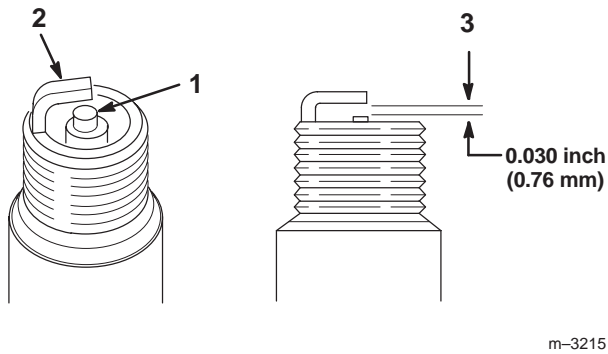

Figure 39
1. Look at the center of the spark plug(s) (Fig. 39). If you see light brown or gray on the insulator, the engine is operating properly. A black coating on the insulator usually means the air cleaner is dirty.
2. Check the gap between the center and side electrodes (Fig. 39). Bend the side electrode if the gap is not correct (Fig. 39).